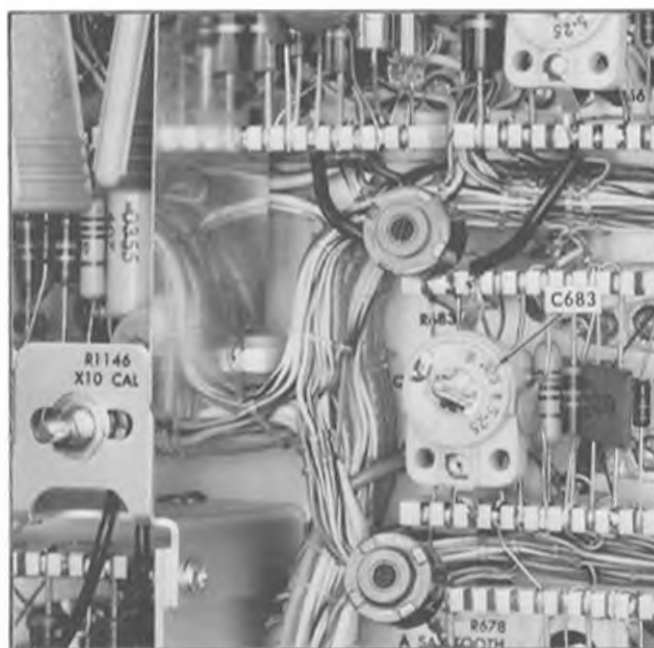

Fig. 6-51. Location of sweep crossover adjustment for serial numbered instruments 2000 and up.
- Adjust C683 (see Fig. 6-51) to obtain a 1 marker/cm display on the lower beam. Tolerance: within  $\pm 3\%$  or  $\pm 2.4$  mm.